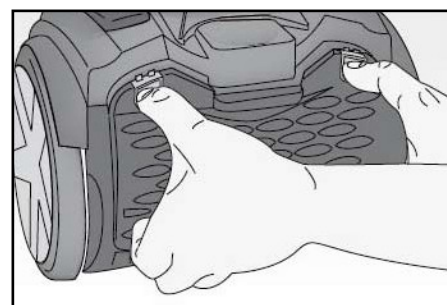

Fig. 10
- Use the two levers and lower the hatch in the back section of the appliance (Fig. 10).